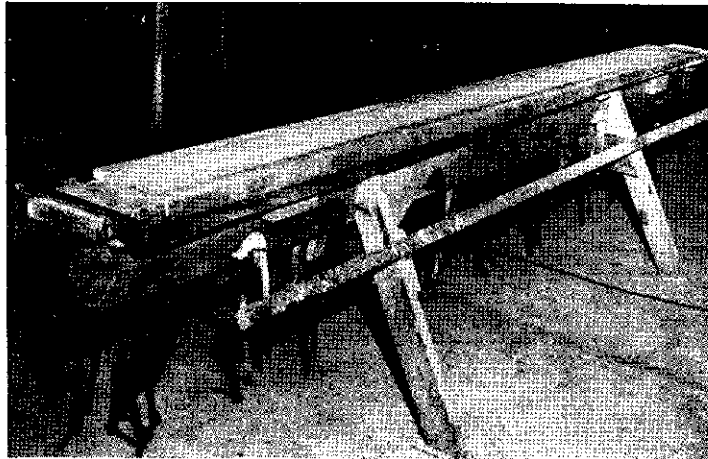

Fig. 9—BLADE WORK BENCH. Note the handy way of storing "C" clamps and pressure strips. Waxed paper in place, the blade is ready for gluing.
- (j) Lay top skin in position, check all points for a close fit, correct wherever necessary. Cover top skin with a strip of wax paper. Lay the 2" x 2" pressure pads in position on top skin. The front pad should be 1/16" to rear of leading edge, and the rear pad should be flush, or slightly ahead of, the rear edge of the top skin. Adjust "C" clamps. Place at even intervals, with 8 or more clamps on each side, and tighten lightly. Check carefully to see if all parts fit well under pressure. Be sure "C" clamps are clear of the leading edge strip, to permit its removal while clamps are in position. Mark the position of each clamp and pressure pad. Remove and hang on nails driven under the work bench (see Fig. 9).